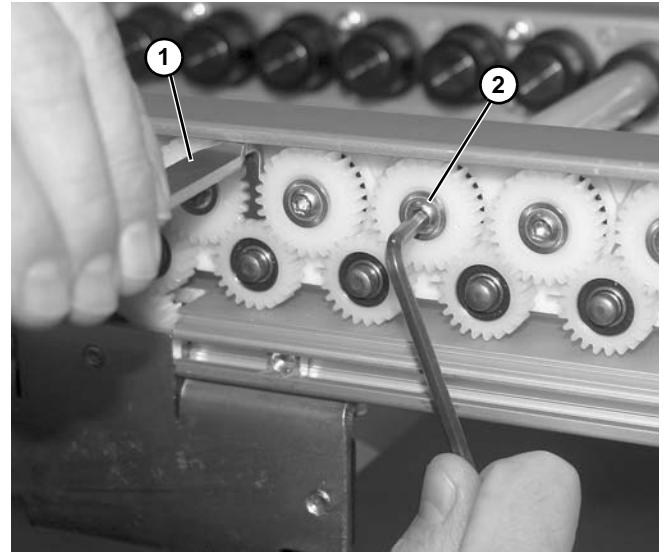

Figure 35
2. Install sprocket removal tool, part number 400571 (Figure 35, item 1) between gears.
3. Remove screw (Figure 35, item 2) holding gear onto roller shaft.